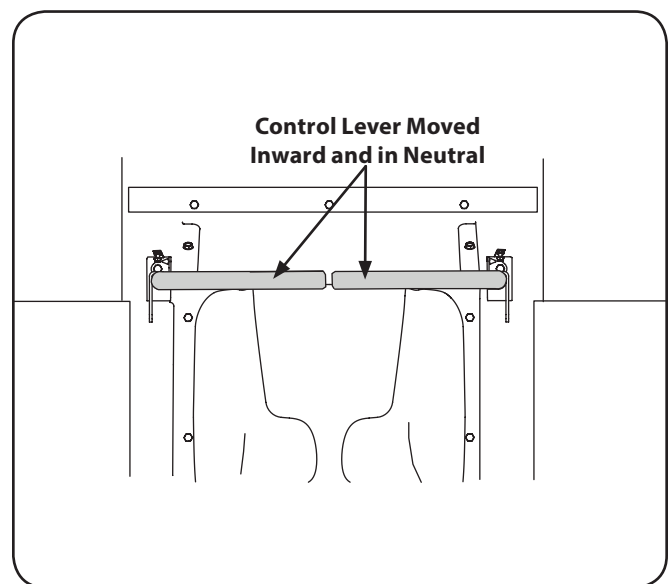

Figure 5-1
- Move the RH and LH drive control levers inward in the neutral position. Refer to Figure 5-1.